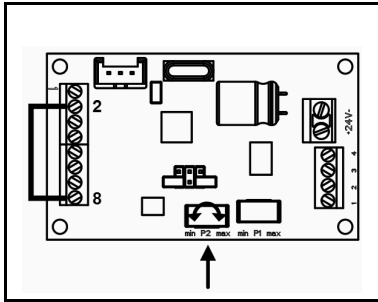

Fig. 11: Without external input signal
- Connect COM8 with COM2 (cf. Fig. 11).